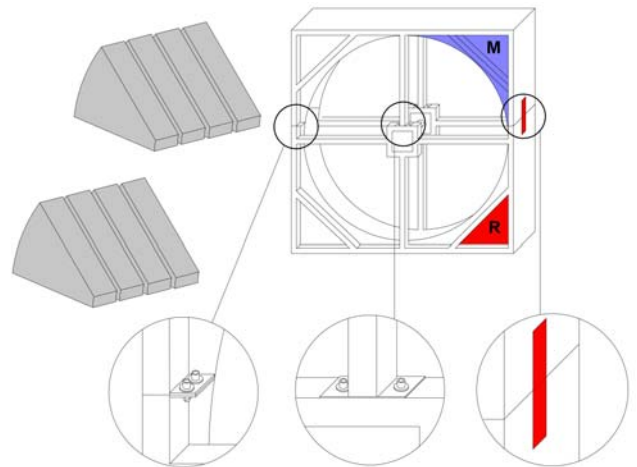

Figure 4
- Screw casing top part to encasing bottom part. (figure 4)